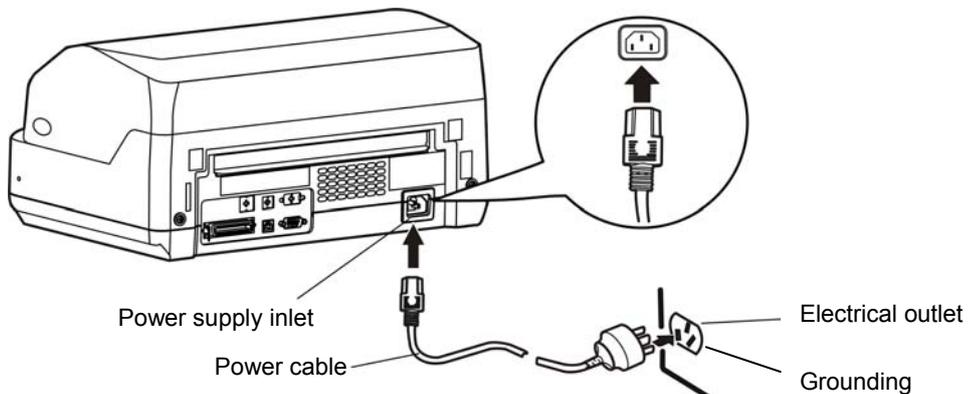

Figure 2-19 Connecting the power cable to the printer
4. Plug the power cable into a well grounding electrical outlet. (Show as figure 2-19)